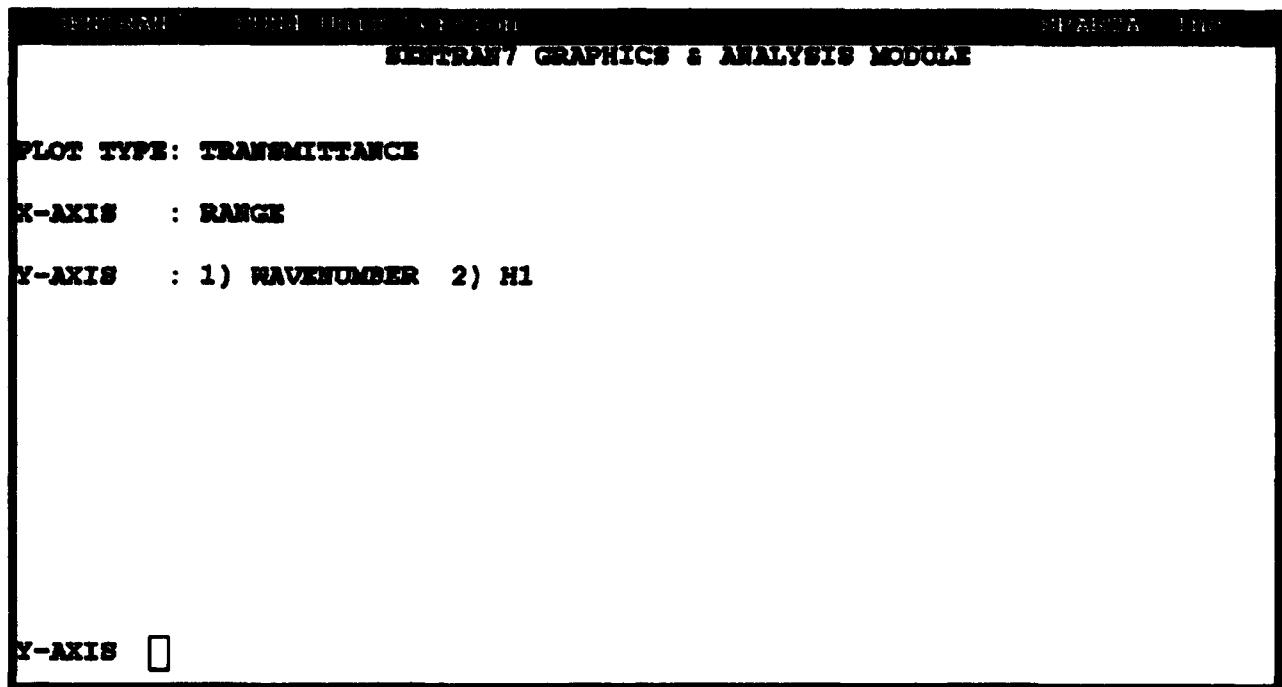

Figure 63. Screen Prompt Displayed Showing the Choices for the Y Axis Parameter
- 3) We would like the *x* axis to be the perturbed parameter RANGE, so enter a '2' in response to the *x* axis prompt. The program will now prompt you for the *y* axis parameter, as shown in Figure 63.